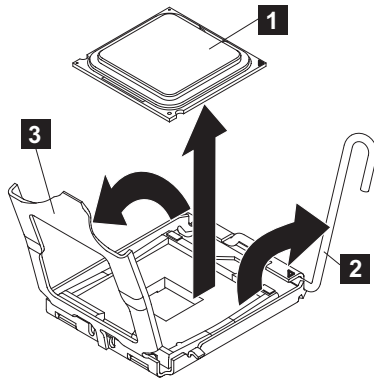

Figure 257. Opening the SAN Volume Controller 2145-CG8 or 2145-CF8 microprocessor-bracket frame
1. To open the socket in preparation for inserting the microprocessor, press down and out on the release lever (**2** in Figure 257 on page 274 as you did to remove the microprocessor, and lift up the microprocessor-release lever until it stops in the fully open position.